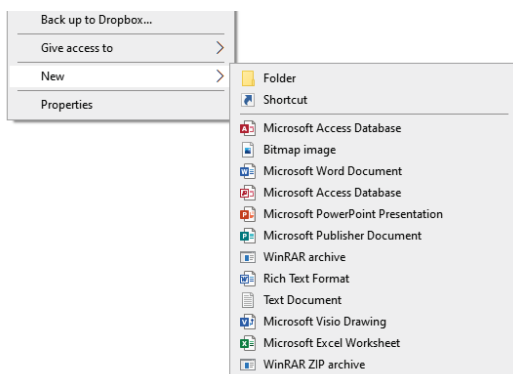

Fig. 53
1. Create a new text file using a text editor such as Notepad (Windows) or TextEdit (Mac) (Fig. 53).